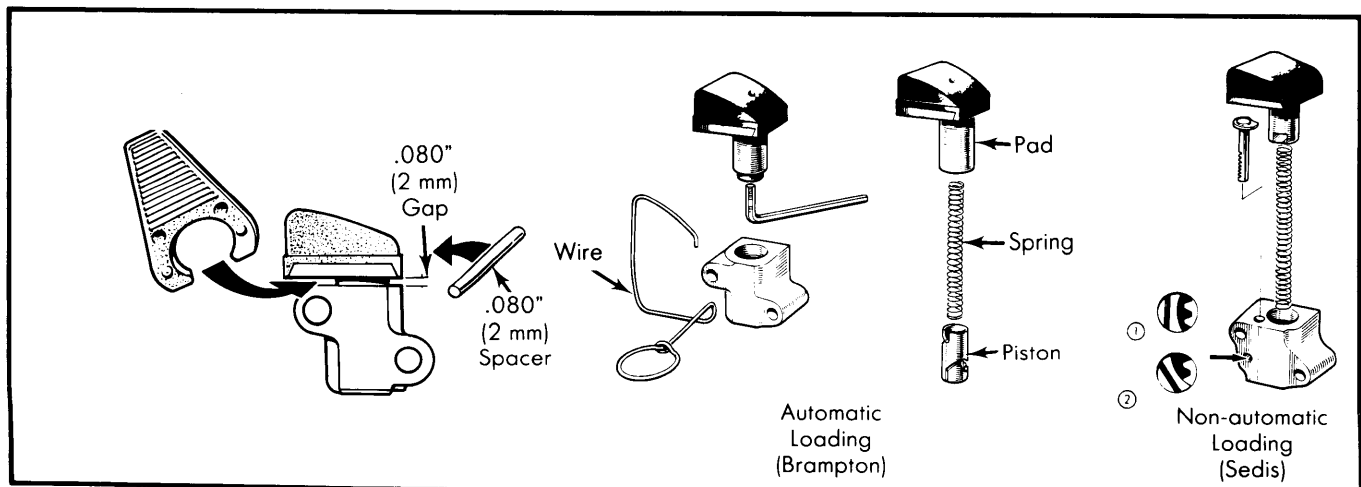

Fig. 13 Hydraulic Chain Tensioners
- 3) For non-automatic loading tensioner (Sedis) unload by placing the lock in position No. 1. Push pad in all the way. Place lock in position No. 2. DO NOT attempt to dismantle the lock. For automatic loading tensioner (Brampton) wrap with wire. Remove from vehicle. To unload, remove wire. Retrieve the pad, spring and piston. Reassemble and lock together using a 3 mm hex wrench. Insert the assembly into the housing leaving a gap of .080" (2 mm). See Fig. 13.